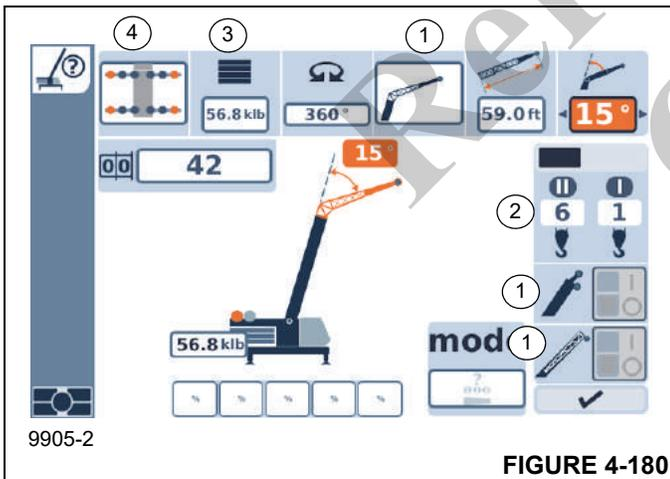

FIGURE 4-180
- Select one of the desired components (1, Figure 4-180) to (4).